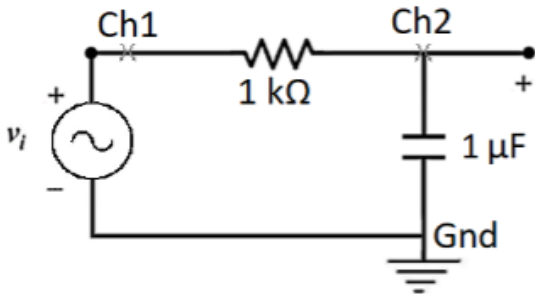

Figure 11
10. Write the transfer function of the low-pass filter circuit shown in Figure 11. Using this function, calculate the amplitude of the output signal for the input signals given in Table 6.
2. Build the circuit given in Figure 11. Apply a sinusoidal signal ( $V_{pp}=10V$ ) from the signal generator. Measure the output voltage on the  $1\mu F$  capacitor according to changing frequency values given in Table 6 by using an oscilloscope and write the results in related places in Table 7.